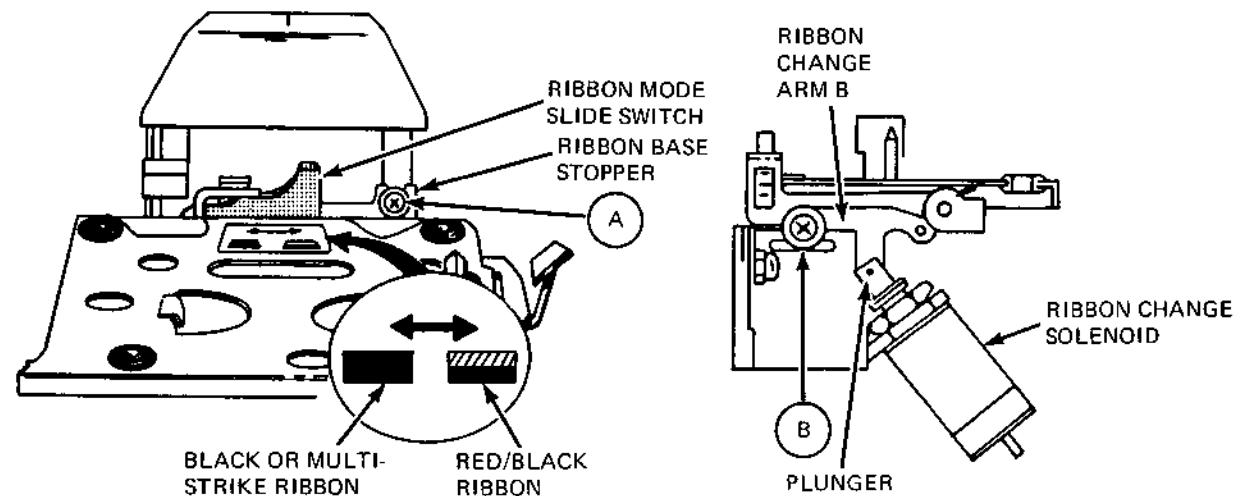
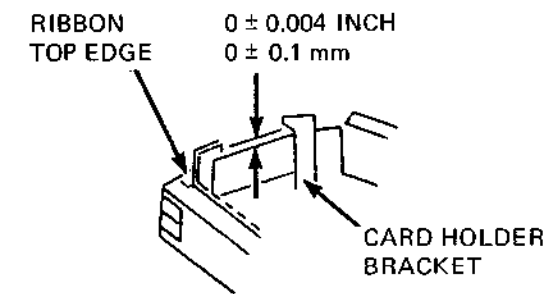

Figure 5-3 Ribbon Color Change Adjustment Location
Figure 5-4 Ribbon Color Black Adjustment
- Remove the ribbon cartridge and slide the ribbon mode slide switch to the right (red/black position) (see Figure 5-3).
- Adjust the ribbon base stopper using screw A (see Figure 5-3) so that the gap between the ribbon top edge and the top projection of the card holder bracket (see Figure 5-4) is  $0 \pm 0.004$  inch ( $0 \pm 0.1$  mm).
- Loosen adjusting screw B (see Figure 5-3) and insert the ribbon cartridge.